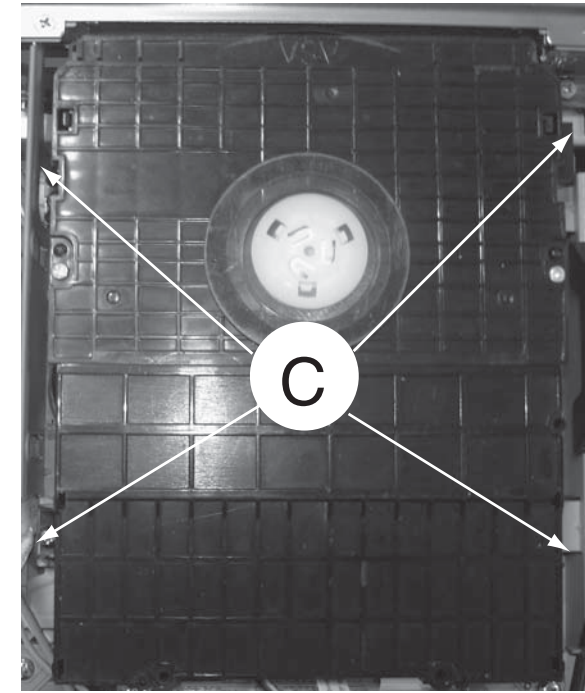

Figure 6
- 1) Loosen 4 screws "C" at the Blu-ray Loader as shown in figure 6.